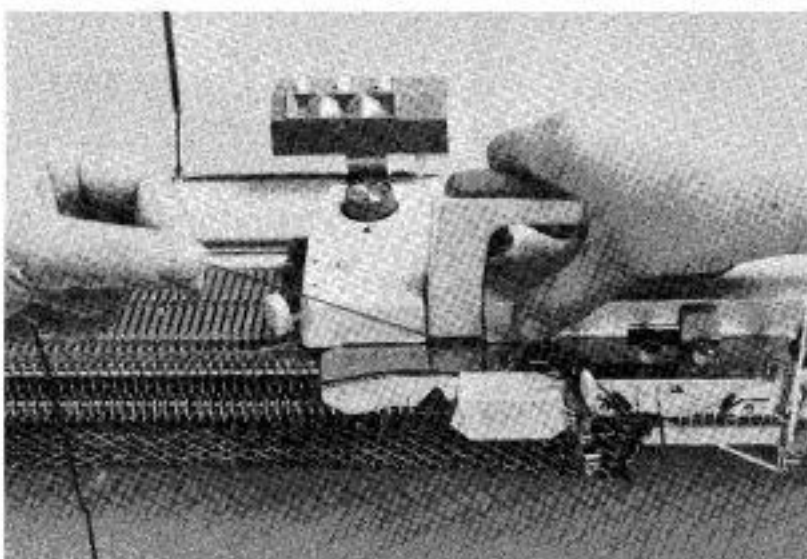

Fig. 134
* Pull Main Feeder out of action, and hold the contrasting colour with your left hand and guide it into the leading Subsidiary Yarn Feeder (left hand). Push in the leading Needle Forwarding Lever, and move the carriage across the needles. (Fig. 134) This completes the 2nd row.